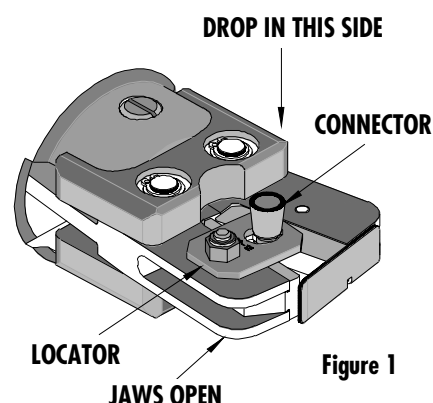

Figure 1
1. Hold Air Head crimp tool with the locator facing up. Insert the closed end connector in the slot (12-22). Make sure that the shoulder of the connector is resting on the locator plate (See Figure 1).